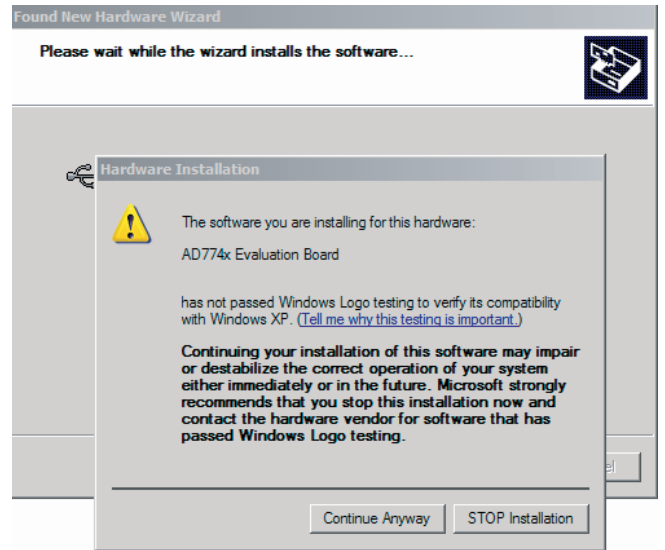

Figure 5. Windows Logo Warning
4. Follow the steps in the Found New Hardware Wizard window. If a message that the software has not passed Windows® Logo testing appears, click **Continue Anyway** (see Figure 5).